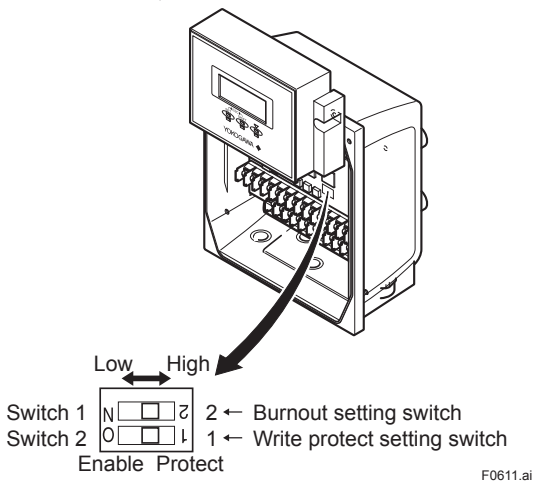

Figure 6.3.4 Switch Configuration for AXFA11 Remote Converter
- (4) Lift the display unit (See Figure 6.3.4).
- (5) Set the switches. There are two switches (See Figure 6.3.4). One is for burnout setting and the other for write protect setting, located adjacent to each other.
- (6) Taking care not to entangle the cables, install the display unit with two mounting screws.
- (7) Install the cover.